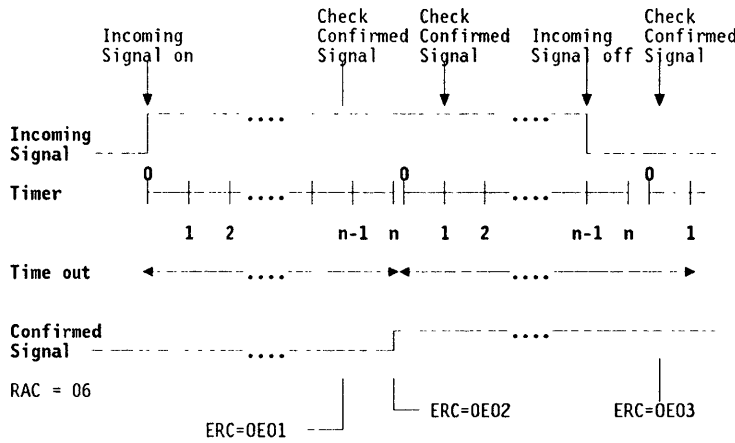

Figure 5-3. Timing Diagram A
1. Process a set of verifications from the confirmation mechanism for the DSR, RI and RLSD signals. See Figure 5-3 for the respective ERC test sequence points.